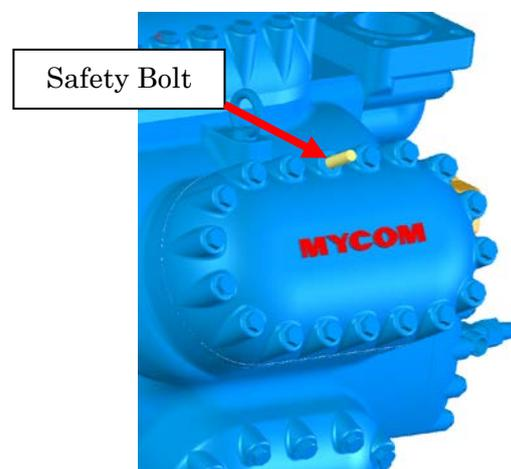

Fig.8.3 Head Cover, Air-cooled type (P/N49)
- b. Remove the upper bolts first, then mount a safety bolt.(Refer to Fig.8.3)